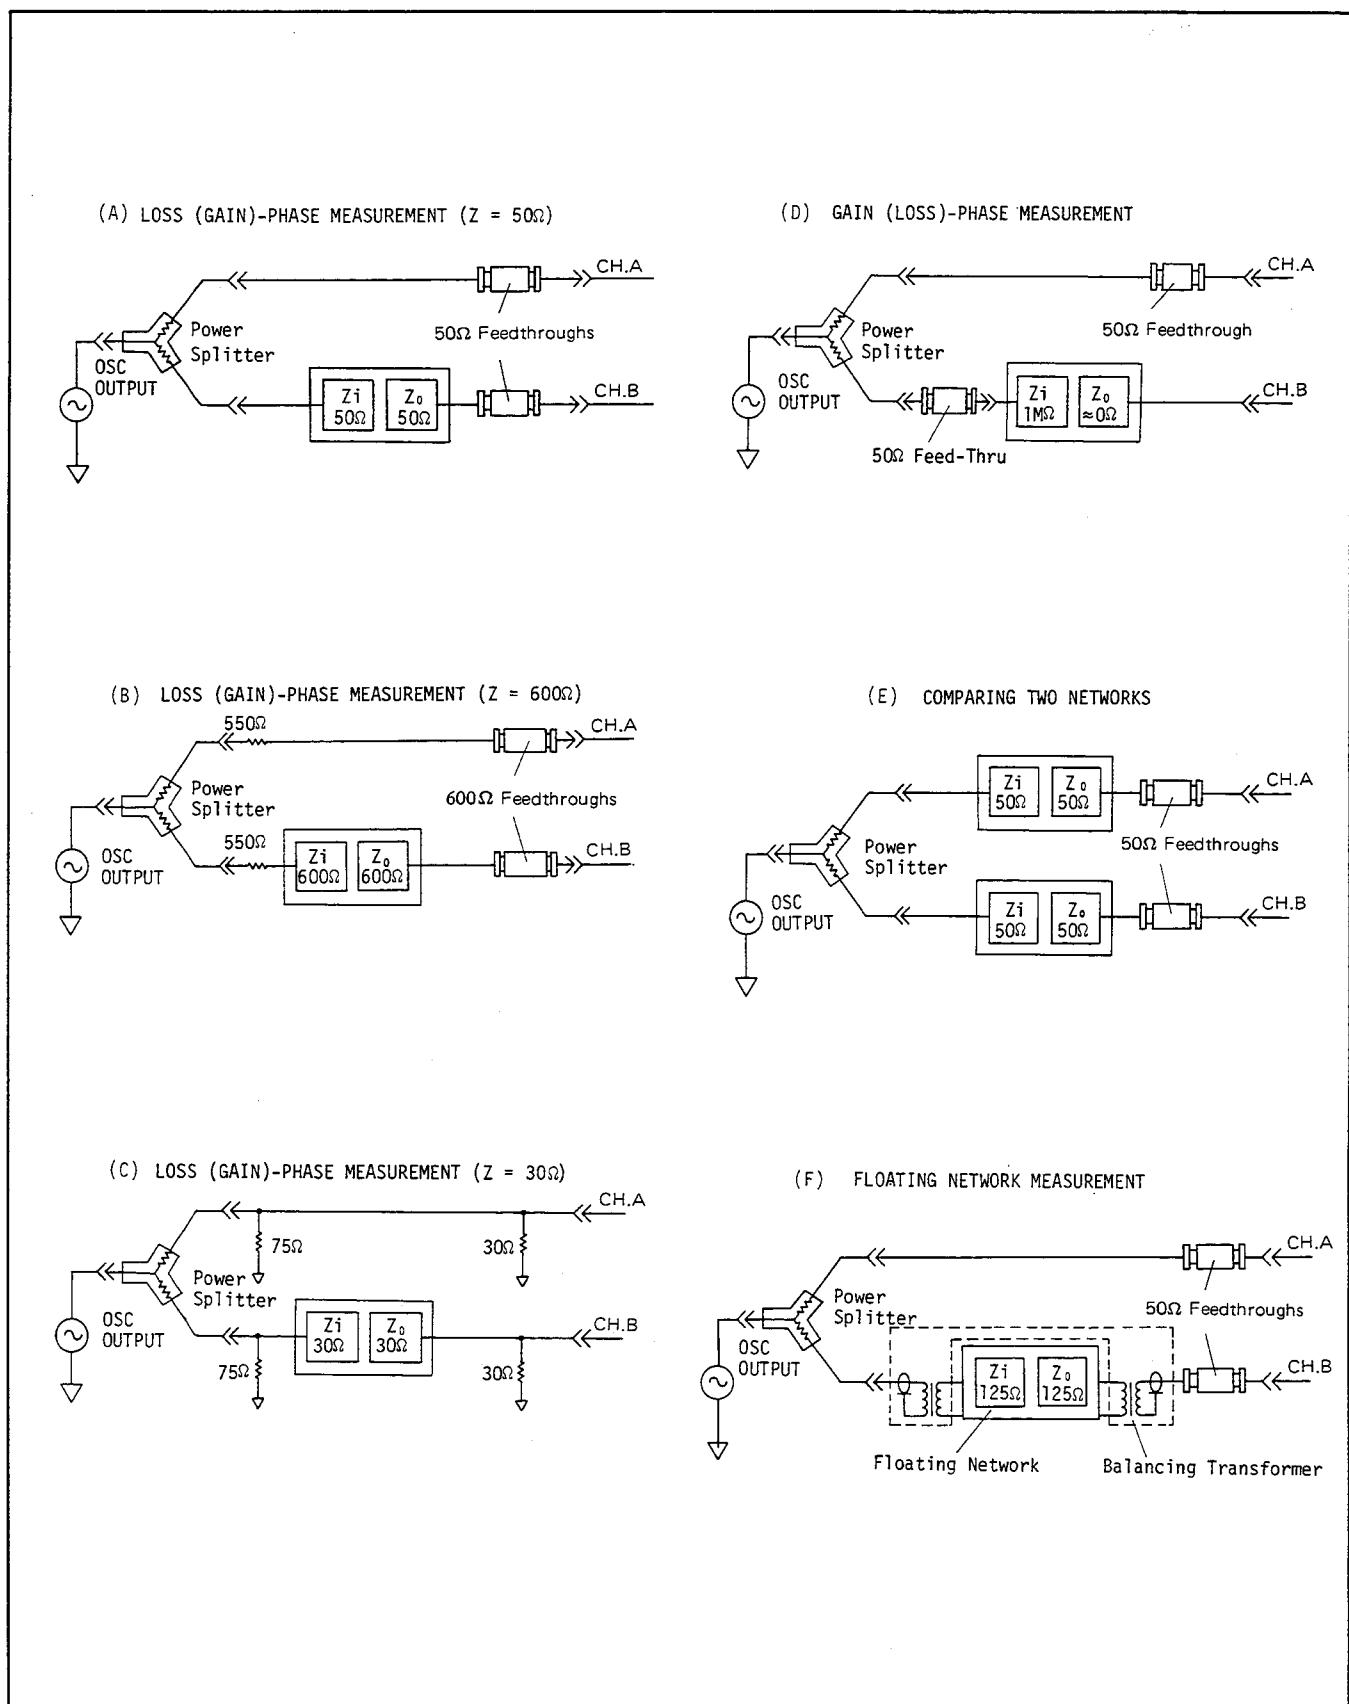

Figure 3-8. Input Configurations
3-47. Figure 3-8 illustrates and describes the basic input configurations for various types of measurements. Connections of these input configurations should be made using coaxial cables with BNC connectors as listed in Table 3-9. When making input connections, observe the following guidelines:
Note: When making a relative gain/loss (B-A) measurement with either the 4192A or a Network Analyzer using the input configurations shown in Figure 3-8, the measurement results are the same but those of an absolute amplitude (A/B) measurement may differ. This is because the 4192A uses a passive (2-resistor) power splitter and the Network Analyzer uses an active power splitter.
3-49. In most measurement applications the network under test must be driven and terminated in its characteristics impedance. If the characteristic impedance of the network matches the  $50\Omega$  output impedance of the 4192A OSC OUTPUT, the network can be connected directly to the OSC OUTPUT through the power splitter as shown in Figure 3-8(A). In this case, both the reference input and test input should be terminated with a  $50\Omega$  Feedthrough and connected to CHANNEL A and CHANNEL B, respectively.
3-50. If the characteristic impedance of the network is greater than  $50\Omega$ , a compensating resistor can be added in series with the OSC OUTPUT between the power splitter and the network to obtain the required output impedance. For example, if the input impedance of the network is  $600\Omega$ , a  $550\Omega$  resistor can be added in series with the  $50\Omega$  output to obtain the required  $600\Omega$  as shown in Figure 3-8 (B). Note that the reference input shown in Figure 3-8 (B) also has a compensating resistor to maintain identical impedances in both channels. In this case, both the reference input and test input should be terminated with a  $600\Omega$  Feedthrough and connected to CHANNEL A and CHANNEL B respectively.
For example, if the input impedance of the network is  $30\Omega$ , a  $75\Omega$  shunt resistor can be added in parallel with a  $50\Omega$  output to obtain  $30\Omega$  as shown in Figure 3-8 (C). Note that the reference input shown in Figure 3-8 (C) also has a shunting resistor to maintain identical impedances in both channels. In this case, both the reference input and test input should be terminated with the  $30\Omega$  shunt resistor and connected to CHANNEL A and CHANNEL B, respectively. When driving an impedance lower than  $50\Omega$ , a certain amount of insertion loss will be encountered. The amount of loss depends on the type of impedance matching network used and on the various impedance ratios. Whenever a loss is encountered, an equal loss should be introduced in CHANNEL A so that the reference input accurately represents the input of the network. This can be accomplished by placing identical shunt resistances and identical terminations in both channels.
3-52. When the network to be tested has a high input impedance ( $(1M\Omega)$ ) and low output impedance ( $\approx 0\Omega$ ), each channel should be terminated with a  $50\Omega$  Feedthrough and then the network can be connected to CHANNEL B as shown in Figure 3-8 (D).
3-53. Deviation measurement from reference network can be performed by inserting the standard network between the power splitter and CHANNEL B. Figure 3-8 (E) shows an input configuration of networks which have  $50\Omega$  characteristic impedance. In this case, both the
3-54. Floating networks can be measured by floating from the measuring circuit using a balancing transformer. Figure 3-8 (F) shows the input configuration of a network which has  $125\Omega$  characteristic impedance. In this case, both the reference input and test input should be